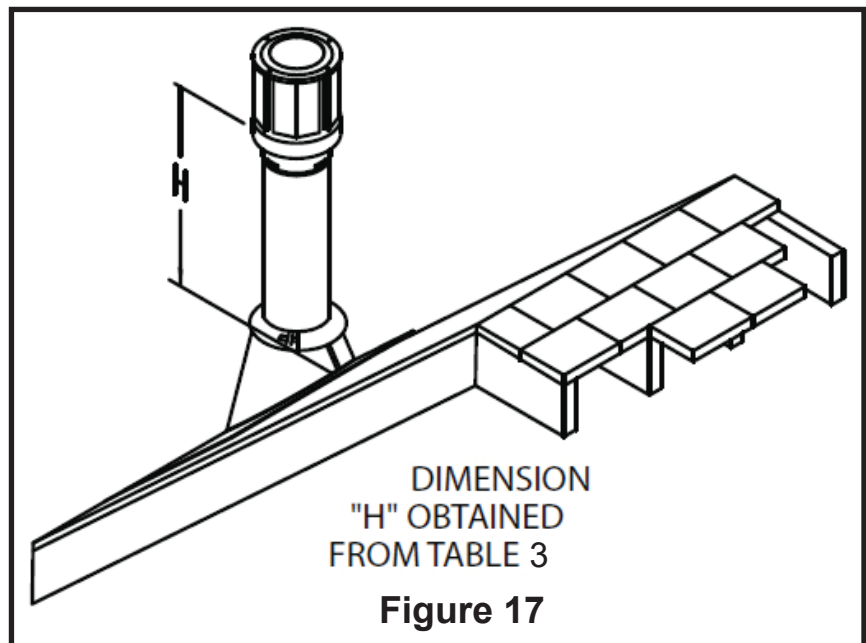

Figure 17
**Step 8.** Continue to add Pipe Sections until the height of the system (before adding the Cap) meets the minimum building code requirements as described in (Table 3 and Fig. 17). Note that for steep roof pitches, the vent height must be increased. In high wind conditions, nearby trees, adjoining rooflines, steep pitched roofs, and other similar factors can result in poor draft, or down drafting. In these cases, increasing the vent height or switching to the High Wind Termination Cap may help to solve the problem.